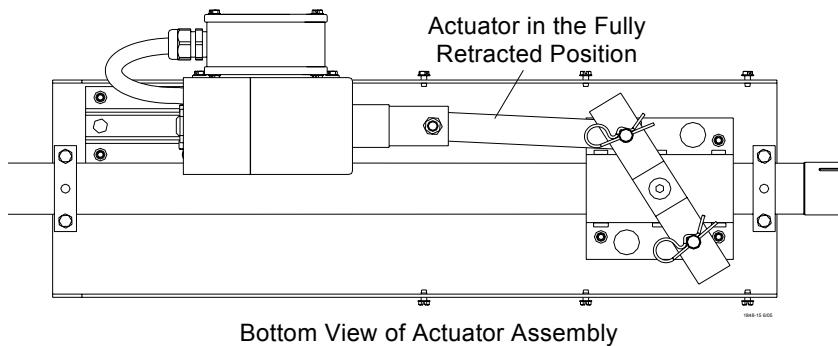

Figure 64. Actuator in Fully Retracted (Open) Position
- Manual/Automatic Switch in the Manual position, Manually operate one actuator at a time running the actuator to the retracted (Open) position, **see figure 64.**
9. At the control unit, after clamping the cable to the spring, cut the cable about 8" to 10" [200 to 250 mm] longer than necessary. Feed the end of the cable through the center of the spring, around the first insulator on the control unit, and clamp the cable using the cable clamp supplied with the control unit. See **Figure 64**.
10. Install the wire form on the control unit insulators. Be sure the guard snaps into the retainers molded into the insulators. See **Figure 64**.